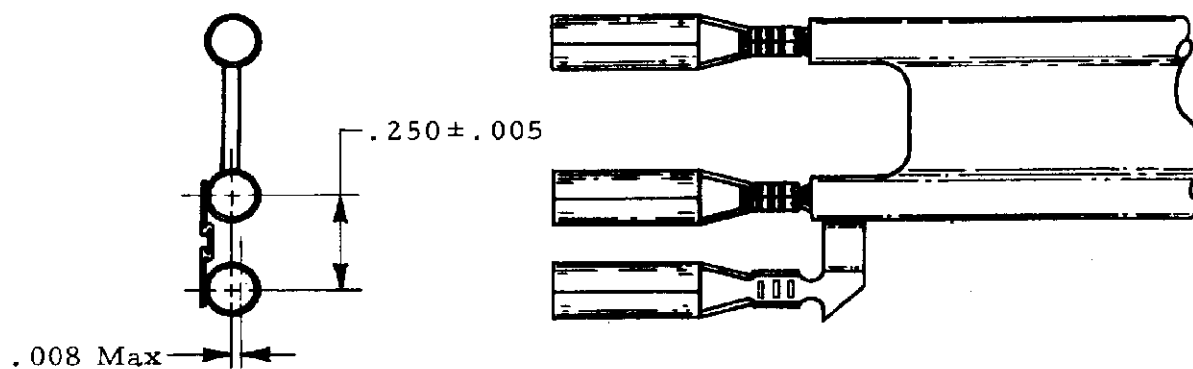

Figure 2
- A. Contact center to center distance shall be within the limits specified in Figure 2 during shearing and crimping of wire lead.